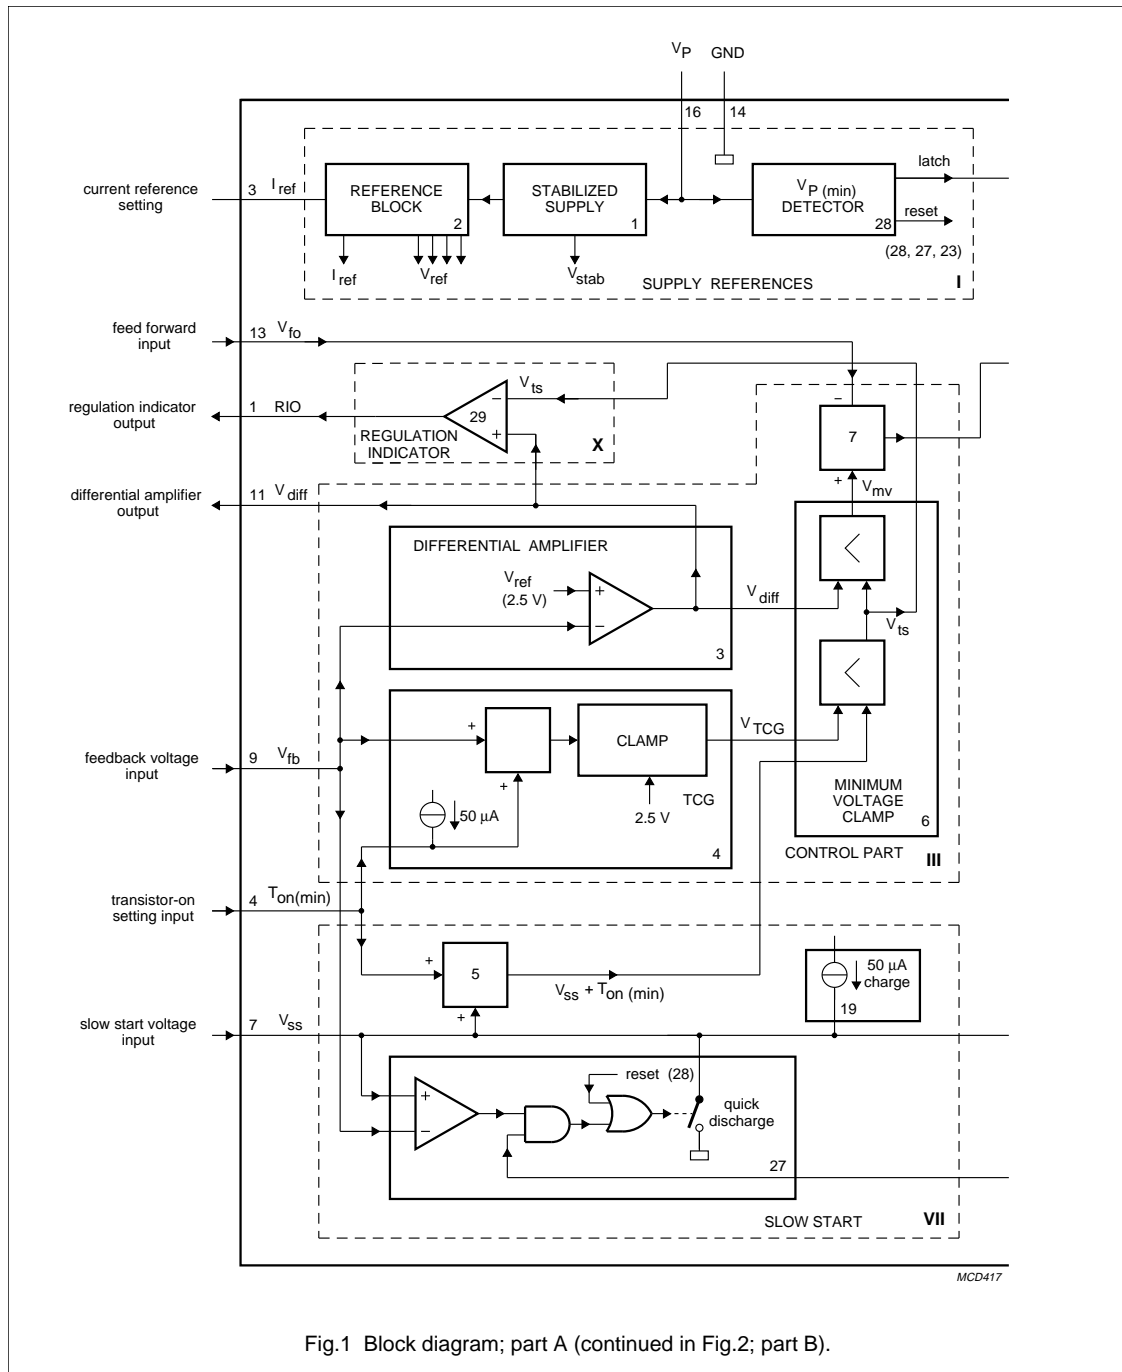
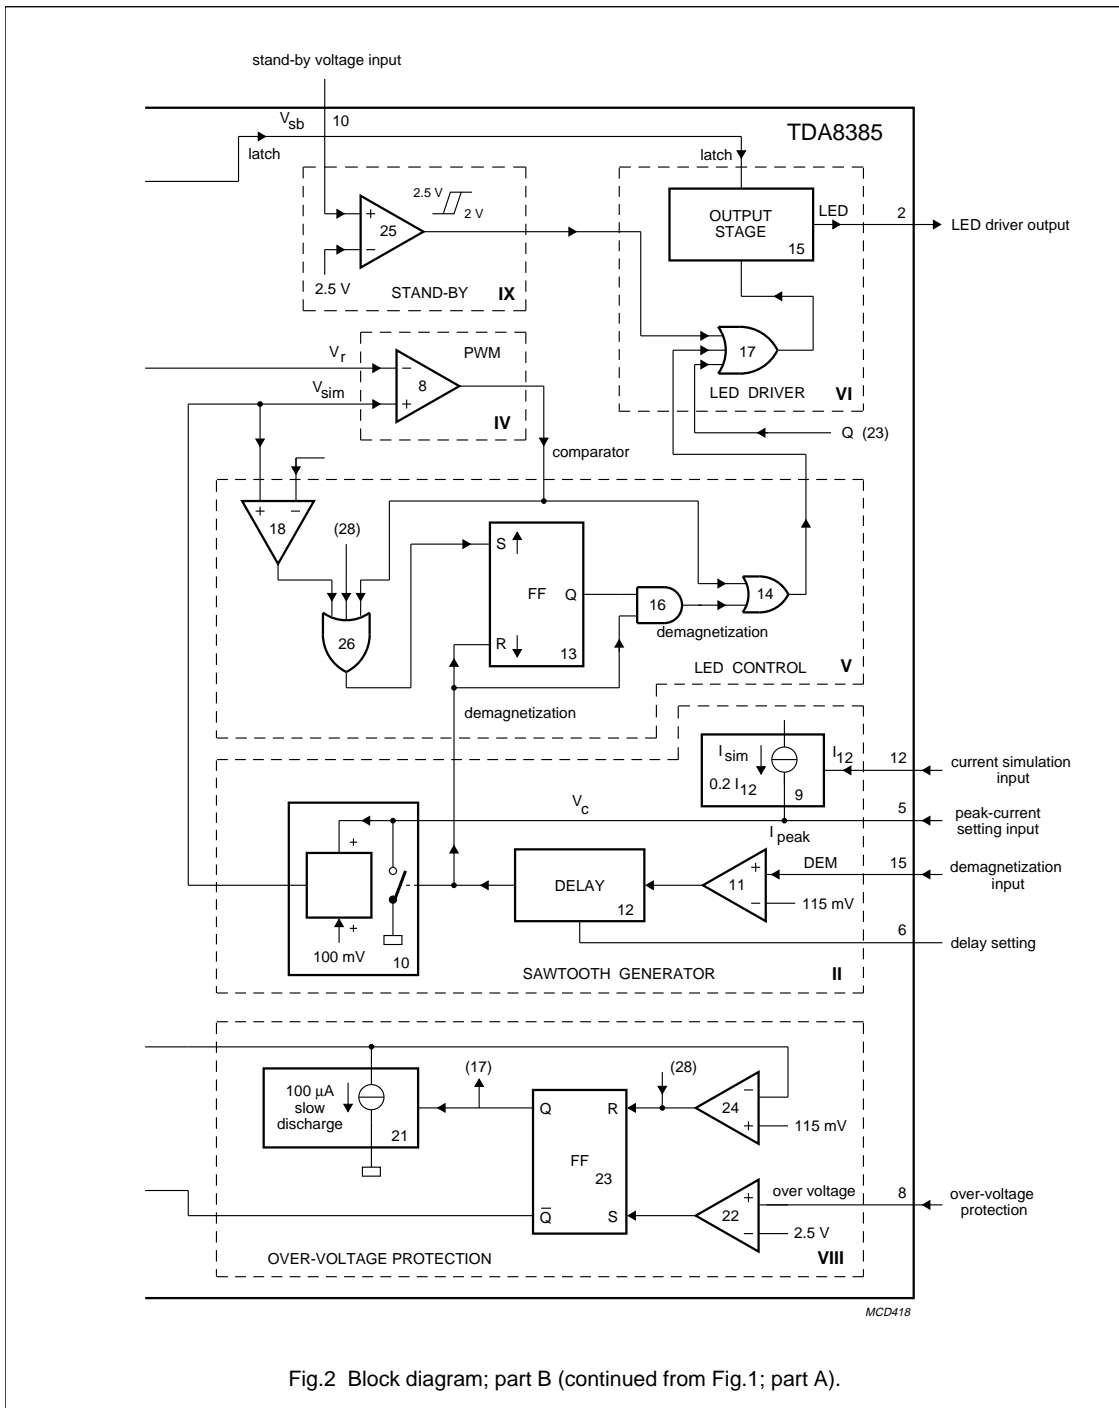

Fig.1 Block diagram; part A (continued in Fig.2; part B).
Fig.2 Block diagram; part B (continued from Fig.1; part A).
The TDA8385 can be divided into 10 functional blocks as shown in Fig.1 and Fig.2.
#### Block for Figs 1 and 2
These 10 functional blocks of Fig.1 and Fig.2 contain sub-sections numbered 1 to 28 which are
Equation (6) shows that by limiting the voltage Vc the collector peak current can be limited. The peak current is limited by means of the clamping circuit in the transfer character generator (TCG); see Fig.1 sub-section 4.